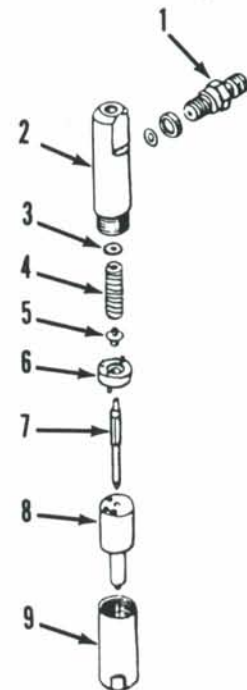

Fig. D1-7—Exploded view of injector assembly.
To disassemble injector, secure body (2—Fig. D1-7) in a vise. Remove nozzle nut (9), then withdraw nozzle valve, spacer, spring and shims.
Connect injector to test pump, then operate tester lever several quick strokes to purge air from the injector and to make sure nozzle valve is not stuck. Then operate tester lever slowly while observing tester gage. Nozzle opening pressure should be 19000-22000 kPa (2755-3190 psi). Opening pressure is adjusted by increasing or decreasing thickness of shims (3—Fig. D1-7).